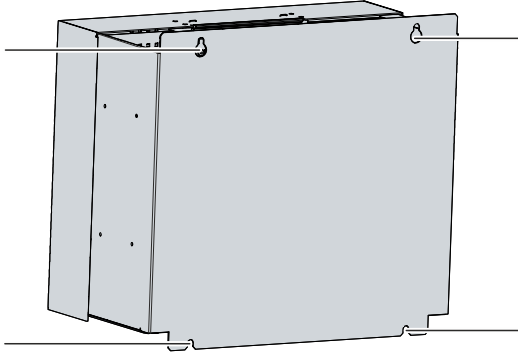

Fig. 17: C6640_control cabinet installation
2. Hang the PC on the screws at the marked points of the mounting concept (see Fig. 17).